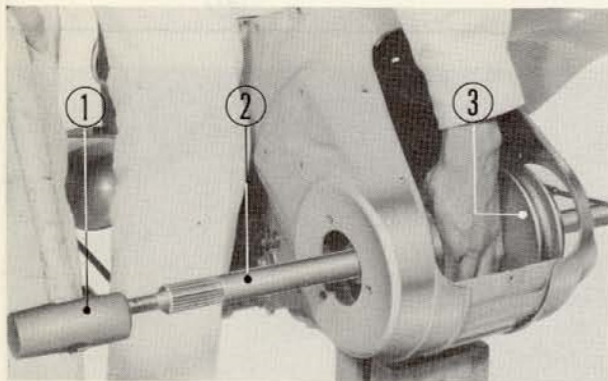

Fig. 4-17
- ① Ball bearing ② L. panel
17. While holding the rear wheel hub by hand, drive out the axle. Use a wooden or soft-faced hammer and give careful hammer blows from the side as shown in Fig. 4-17.